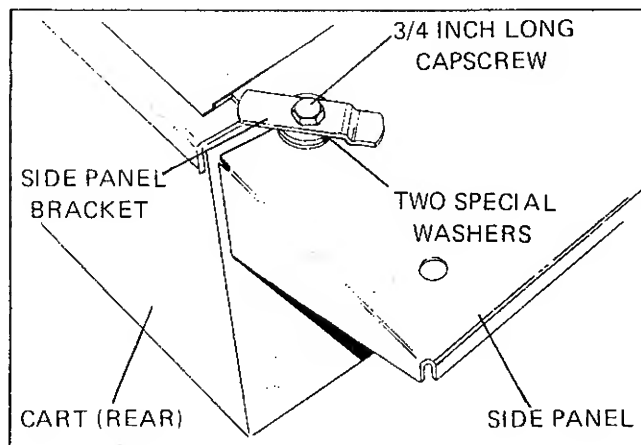

FIGURE 19
7. Secure bracket to inside rear of side panel with two special washers (above side panel), a flat washer (underside panel), a 3/4 inch long capscrew, and locknut (Figure 19). Position side panel bracket at angle illustrated. Repeat procedure for remaining rear corner.